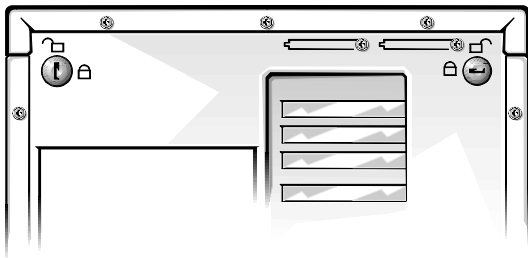

Figure 7-1. Keylocks on the Computer's Back Panel
2. To remove a computer cover, turn the cover's keylocks on the back panel of the computer (see Figure 7-1) to the unlocked position.